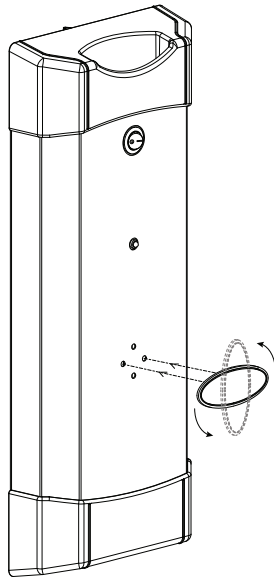

Fig. 17 – Attach Logo
3. Insert the brand logo into the front of the door panel. To insure that the logo is installed in the proper orientation, first attach the door to the purifier and then snap the logo into place with the text in upright position. See Fig. 17.